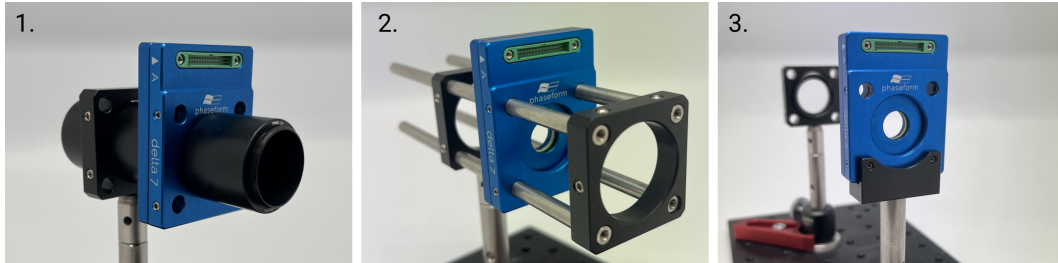

Figure 5: Possible mounting options for the Delta 7 : 1. SM1 threads, 2. 30mm cage system 3. using optional adapter to mount on an optics post
**Hint:** The device comes pre-calibrated assuming light is entering from the front side and the orientation is upright (same as in Figure 5)